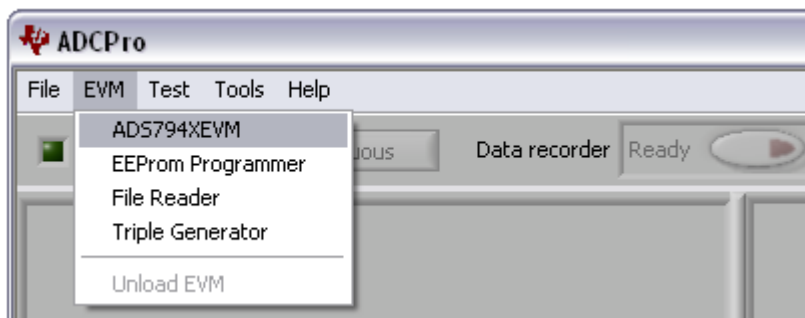

Figure 10. Loading ADS794xEVM Plug-in From ADCPro
- Step 3. Load the ADS794xEVM plug-in from the ADCPro EVM drop-down menu as Figure 10 illustrates.
- Step 3. Load the ADS794xEVM plug-in from the ADCPro drop-down *EVM* menu; see Figure 10. Note that only one EVM plug-in can be loaded at a time. If a different plug-in is selected, the previous plug-in is unloaded.